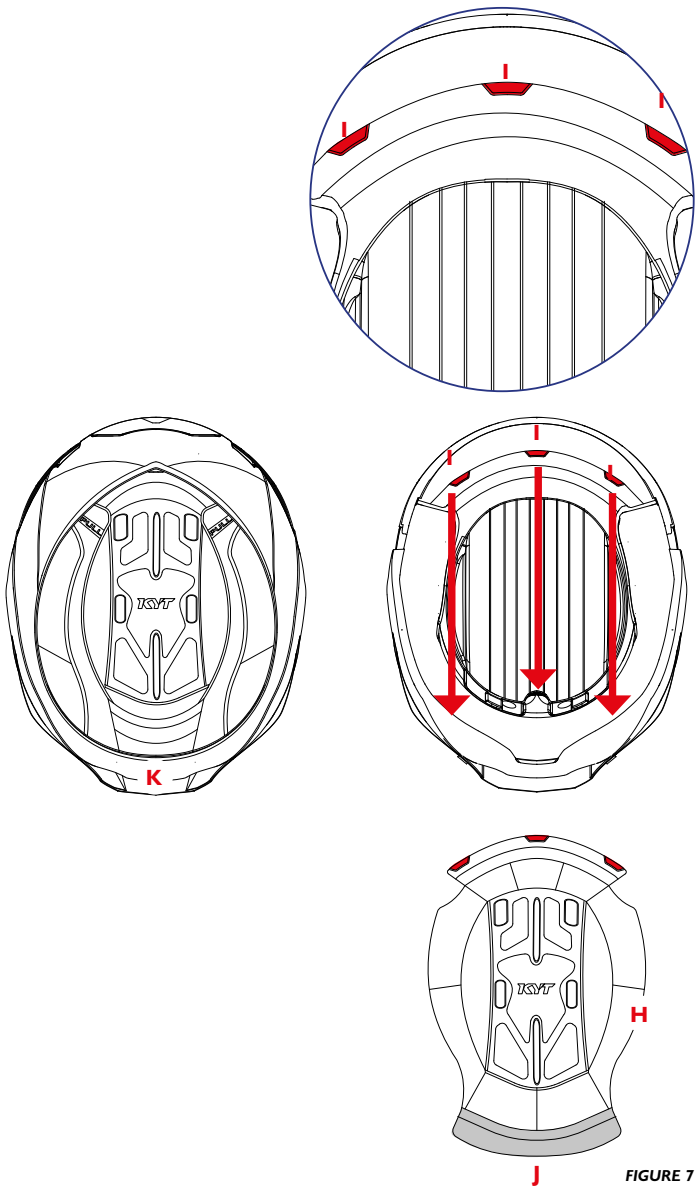

FIGURE 7
**Inner central padding: INNER SHELL — H — Figure 7****Assembly and disassembly**
**Removing the inner padding — Figure 7**